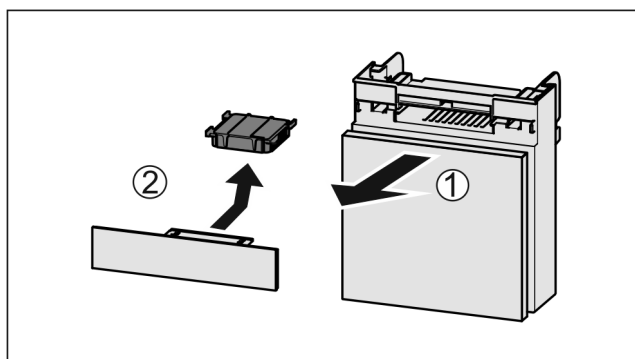

Fig. 162
- ▶ Pull out the compartment *Fig. 162 (1)*.
- ▶ Remove the carbon filter *Fig. 162 (2)*.